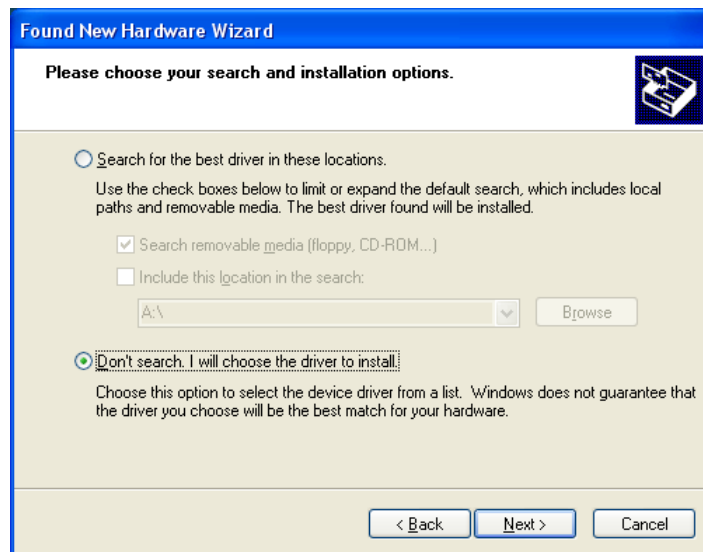

Fig. 3-2 Installation Options
- 2) Select “Install from a list or specific location (Advanced)” in the pop-up “Found New Hardware Wizard”. And then click “Next”. See Fig. 3-2 for the new pop-up window.